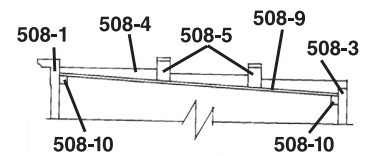

Fig. 3
- Install Roof (508-9) through bottom of building and glue to bottom of Chimney Backs (**Fig. 3**).
- Glue one Roof Support to bottom of Roof and along Front Wall and one to bottom of Roof and along Rear Wall (**Fig. 3**).